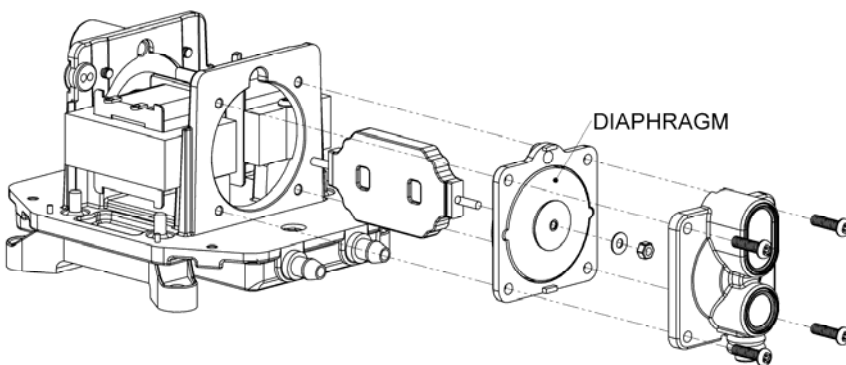

Figure 2
- B. Loosen the four screws outside the diaphragm housing and disassemble the parts. (As shown in Figure 2)